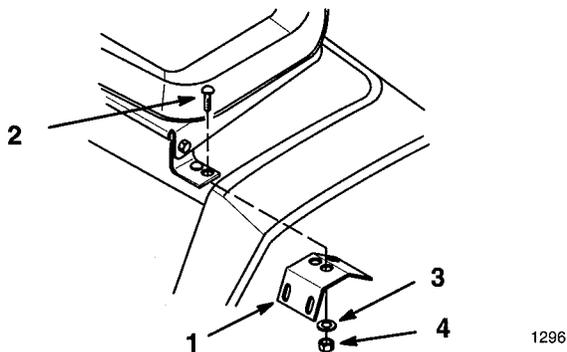

Figure 8
5. Remove nuts from left seat bracket (Fig. 8). Remove bolts and replace with (2) 5/16 x 1-1/4" carriage bolts.
6. Install lift assist spring bracket on under side of left rear fender with long angle of bracket forward (Fig. 8). Secure with previously removed washers and nuts.